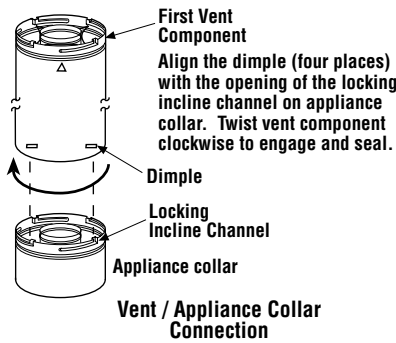

Figure 27
B. Attach vent components to appliance - Secure Vent SV4.5 direct vent system components are unitized concentric pipe components featuring positive twist lock connections (see Figures 27 and 28).
To attach a vent component to the appliance collar, align the dimpled end over the collar, adjusting the radial alignment until the four locking dimples are aligned with the inlet of the four inclined channels on the collar (refer to **Figure 27**). Push the vent component against the collar until it fully engages, then twist the component clockwise, running the dimples down and along the incline channels until they seat at the end of the channels. The unitized design of the **Secure Vent** components will engage and seal both the inner and outer pipe without the need for sealant or screws. If desired a #6 x 1/2" screw may be used at the joint, but it is not required as the pipe will securely lock when twisted.